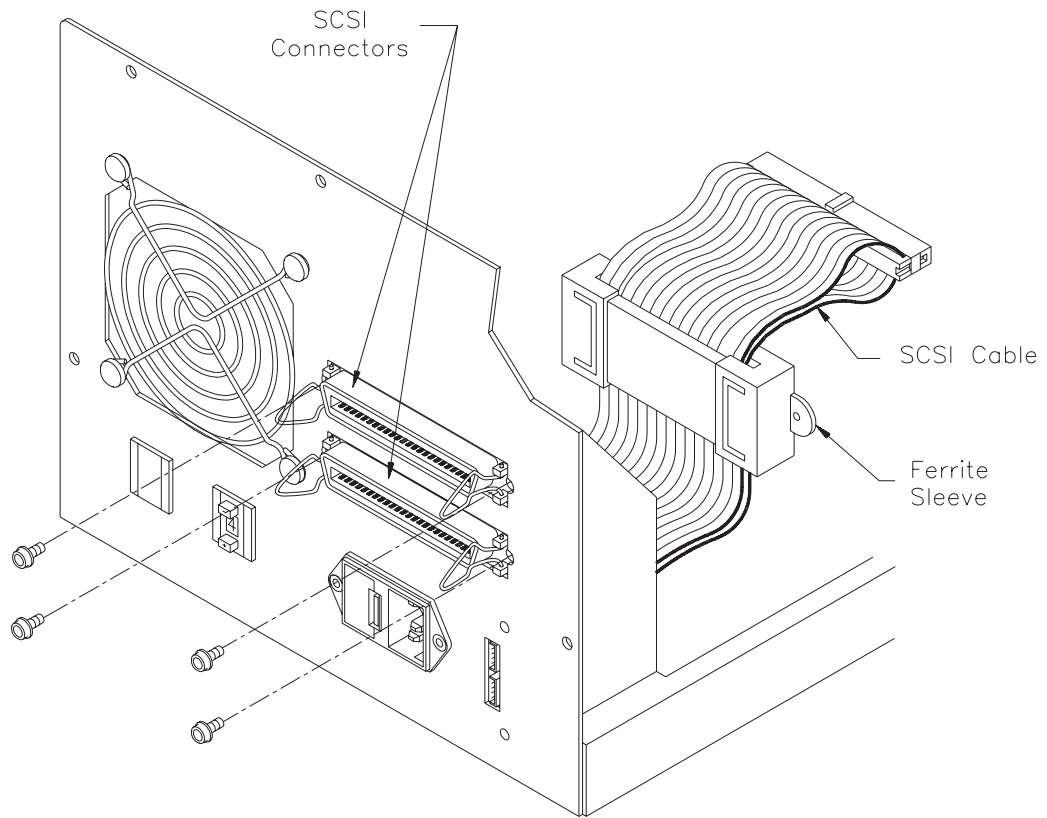
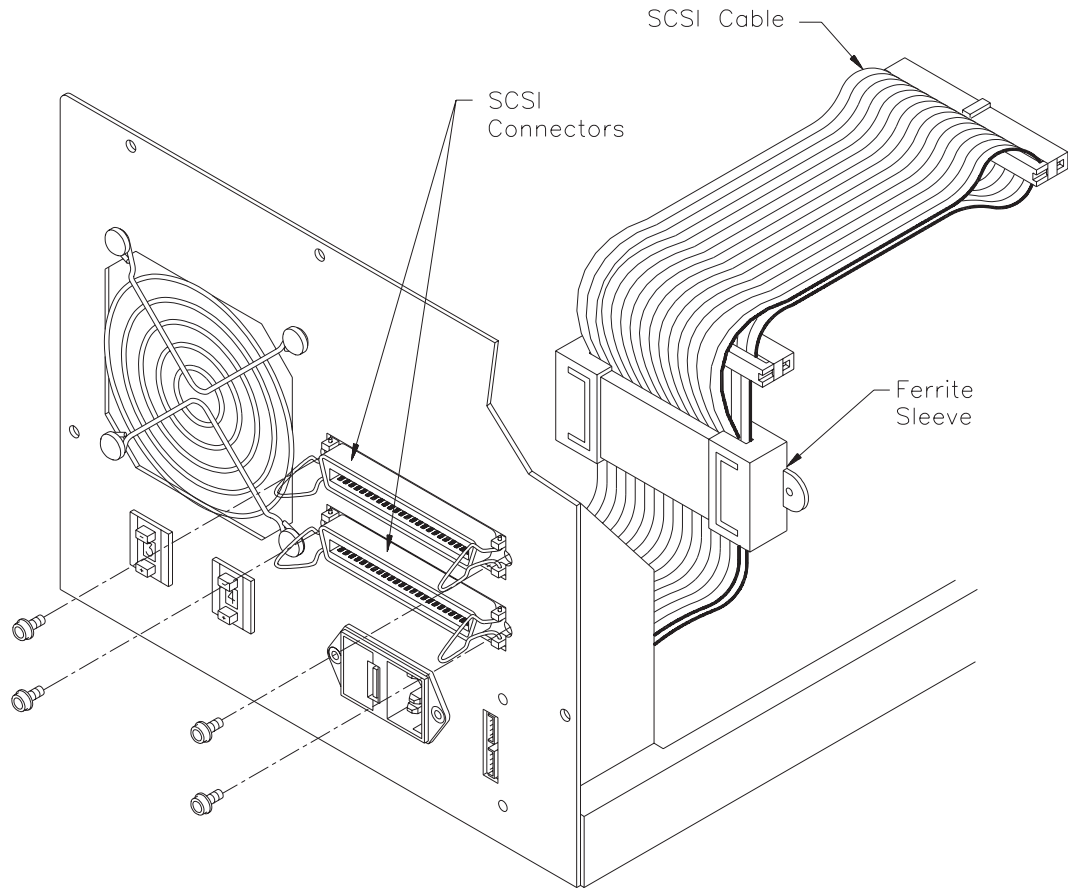

Figure 23-8 SCSI cable assembly for the EXB-10
Figure 23-9 SCSI cable assembly for the EXB-10i
4. Locate the SCSI cable, which is the ribbon cable connected to the two SCSI connectors on the outside back of the CHS and connected to the back of the CTS. Figure 23-8 shows the SCSI cable assembly for the EXB-10. Figure 23-9 shows the SCSI cable assembly for the EXB-10i.